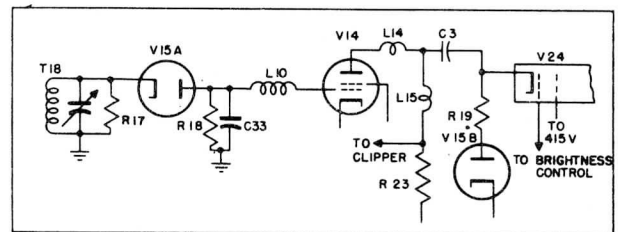

Fig. 5. Video Detector and Amplifier
3. VIDEO DETECTOR AND AMPLIFIER (SEE FIGURE 5)—The video i-f amplifier output is applied to a diode rectifier, V15A, and the diode load, R18, is connected so as to develop a negative-going signal at this point. The signal is amplified by the pentode amplifier, V14, and then applied to the cathode of the picture tube, V24, through the coupling capacitor C3. The remaining diode section of V15 is used to provide d-c reinsertion to the picture at the picture tube.